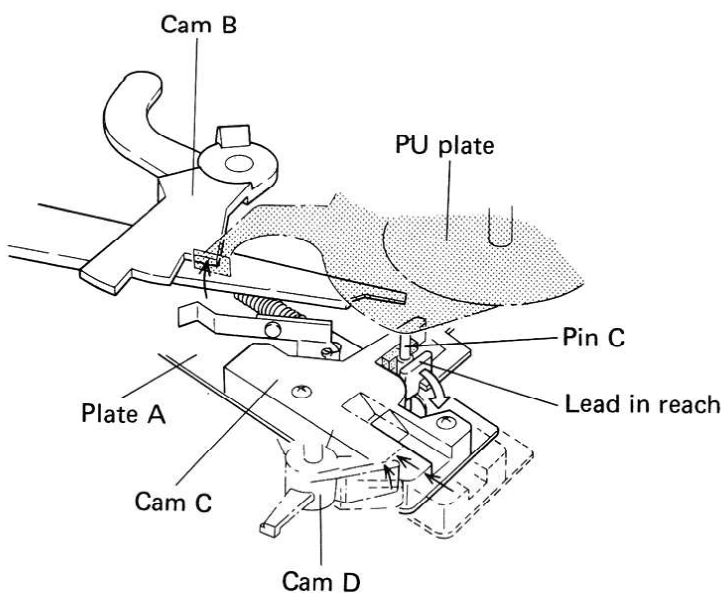
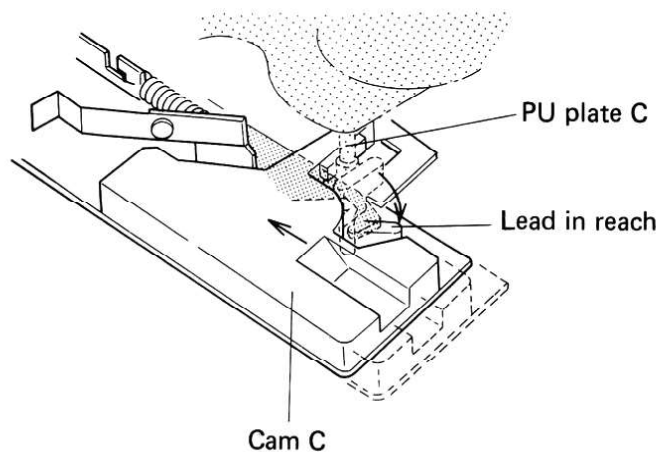

Fig. 8-11
Fig. 8-13
10. The PU plate led in by the lead-in latch also stops when it meets cam B (Fig. 8-11). Then when plate A returns further, the lead-in latch is opened by the action of the sub-panel unit hole, resulting in the release of pin C on the PU plate (Fig. 8-13).
7. When plate A starts to return towards the center shaft, the lead-in latch holding pin C is opened again by plate D, thereby releasing pin C to permit the tonearm to return the arm rest (fig. 8-13).